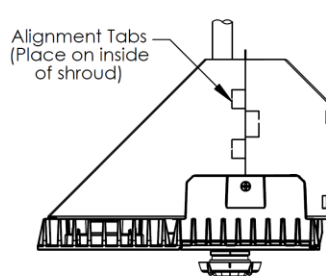

Fig. 9
1. With luminaire in installed position, place the 2 piece Bird Shroud on top of luminaire as shown in Fig. 9.
4. Secure Bird Shroud to luminaire heat sink by placing alignment tabs between heat sink fins and pushing Bird Shroud down so that it sits flat on the heat sink as shown in Fig. 9 & 10. If installing Bird Shroud for single light engine configuration, remove (2X) ¼-20 set screws and secure smaller Bird Shroud to heat sink using (2X) ¼-20 x 3/8 screws (provided) as shown in Fig. 11.
8. Secure Bird Shroud to luminaire heat sink by placing alignment tabs between heat sink fins and pushing Bird Shroud down so that it sits flat on the heat sink as shown in Fig. 9 & 10.